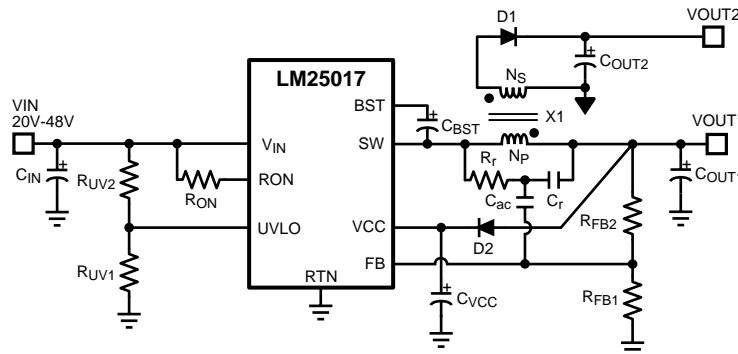

Figure 17. Typical Isolated Application Schematic
An isolated supply using LM25017 is shown in Figure 17 below. Inductor (L) in a typical buck circuit is replaced with a coupled inductor (X1). A diode (D1) is used to rectify the voltage on a secondary output. The nominal voltage at the secondary output ( $V_{OUT2}$ ) is given by: